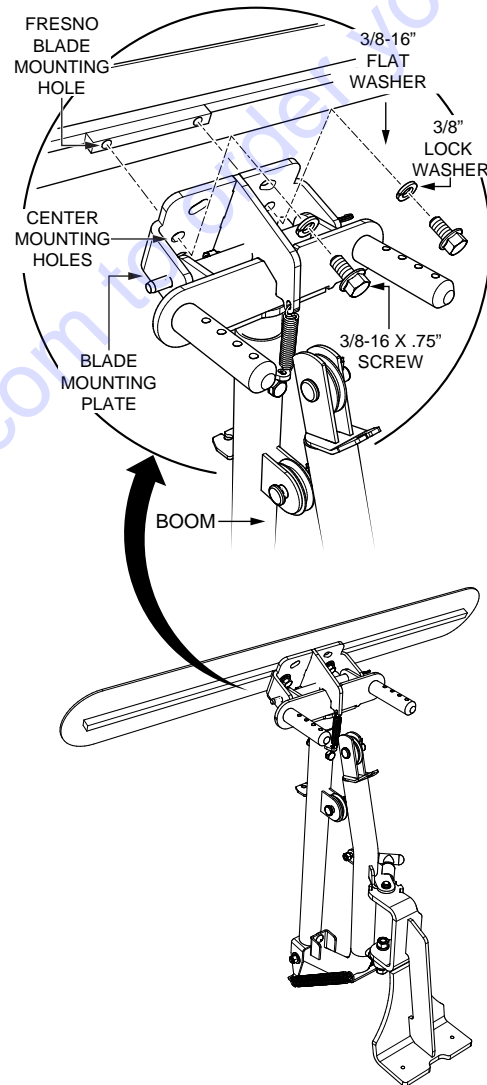

Figure 22. Fresno Blade Attachment
1. Align the two mounting holes on the blade with two center mounting holes (Figure 22) on the boom blade mounting plate.
2. Using a 9/16" wrench, secure the blade to the boom blade mounting plate using the two 3/8" screws, flat washers, and lock washers as shown in Figure 22. Do not over tighten.